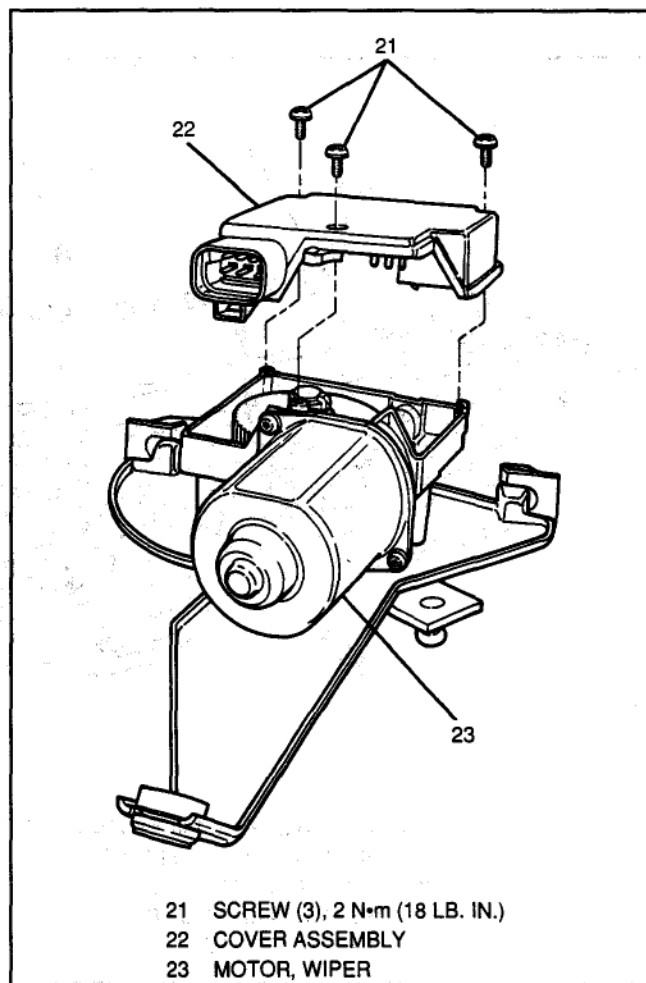

Figure 20 - Wiper Motor Cover Assembly Replacement
Figures 20 and 21
1. Three screws (21, Figure 20) using Torx screwdriver.
2. Cover assembly (22).
1. Cover assembly (22, Figure 20).
2. Three screws (21, Figure 20).